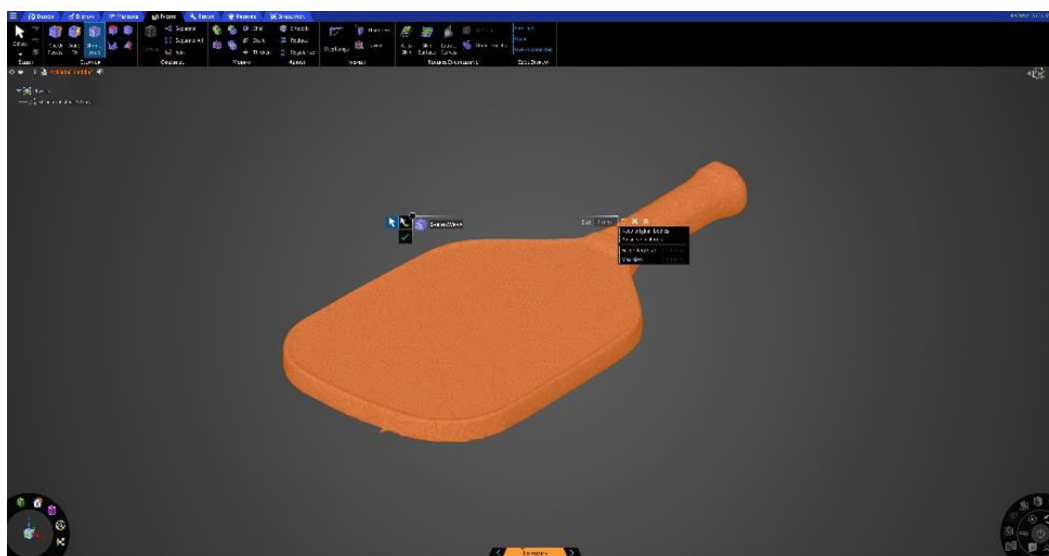

Figure 6: Applying the “Shrink Wrap” to the paddle scan data
3. Further refine the data using “Shrink wrap”, to close any additional gaps or imperfections. Use a size of “1 mm” for the shrink wrap (Figure 6).